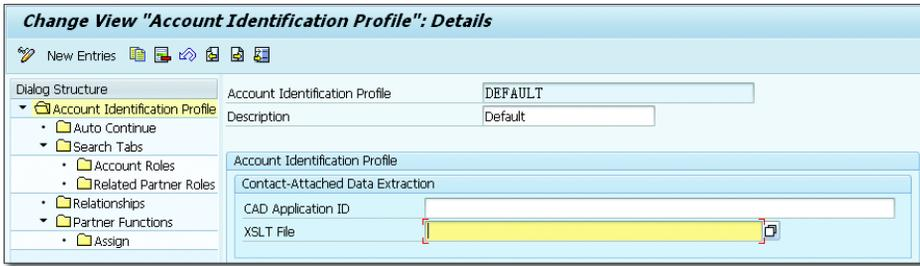

Figure 9.16 Account Identification Profile
2. Figure 9.16 shows the ACCOUNT IDENTIFICATION PROFILE DETAILS view with the CAD APPLICATION ID and XSLT FILE that allows you to connect with the IVR system. If you maintain the CAD APPLICATION ID name and XSLT FILE, it allows you to use the contact's attached data from the IVR system to identify the account. All the available XSLT tags and attributes are listed and explained in the sample XSLT program CRM_IC_BPIDENT_EXT_IAD_TO_ABAP.